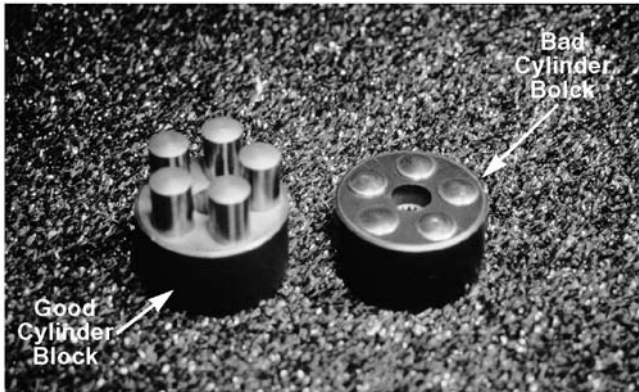

Figure 6-152
30. Shown here is good cylinder block assembly versus a bad cylinder block assembly. The bad cylinder block assembly has been damaged by contamination. All of the piston spring have seized to the cylinder block. This will cause the transmission to display low or no power symptoms. See Figure 6-152